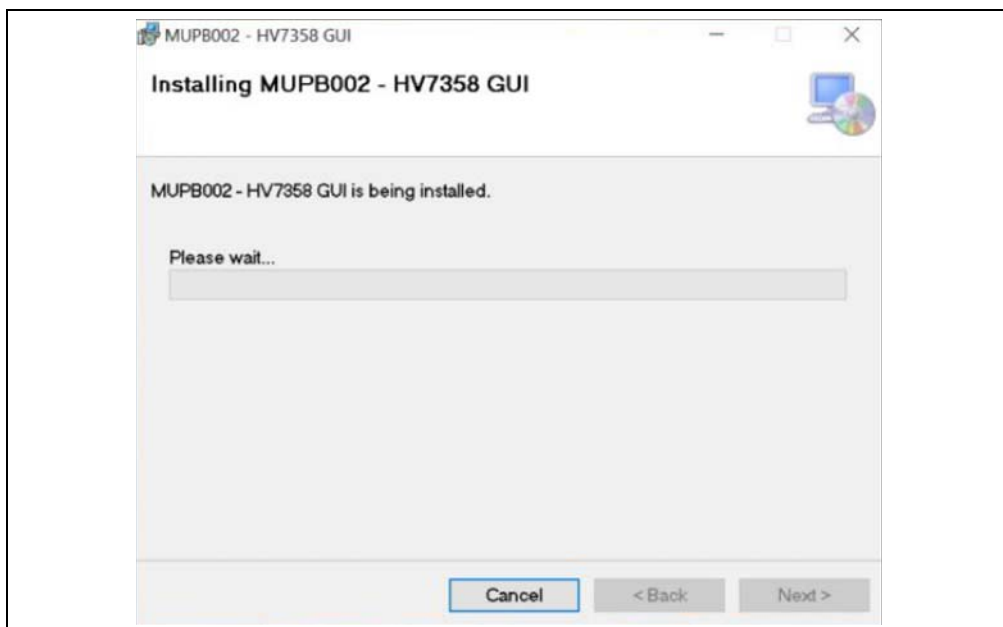

FIGURE 2-14: *Installation Window.*
6. The following window, shown in Figure 2-14, will be visible during the actual GUI installation.